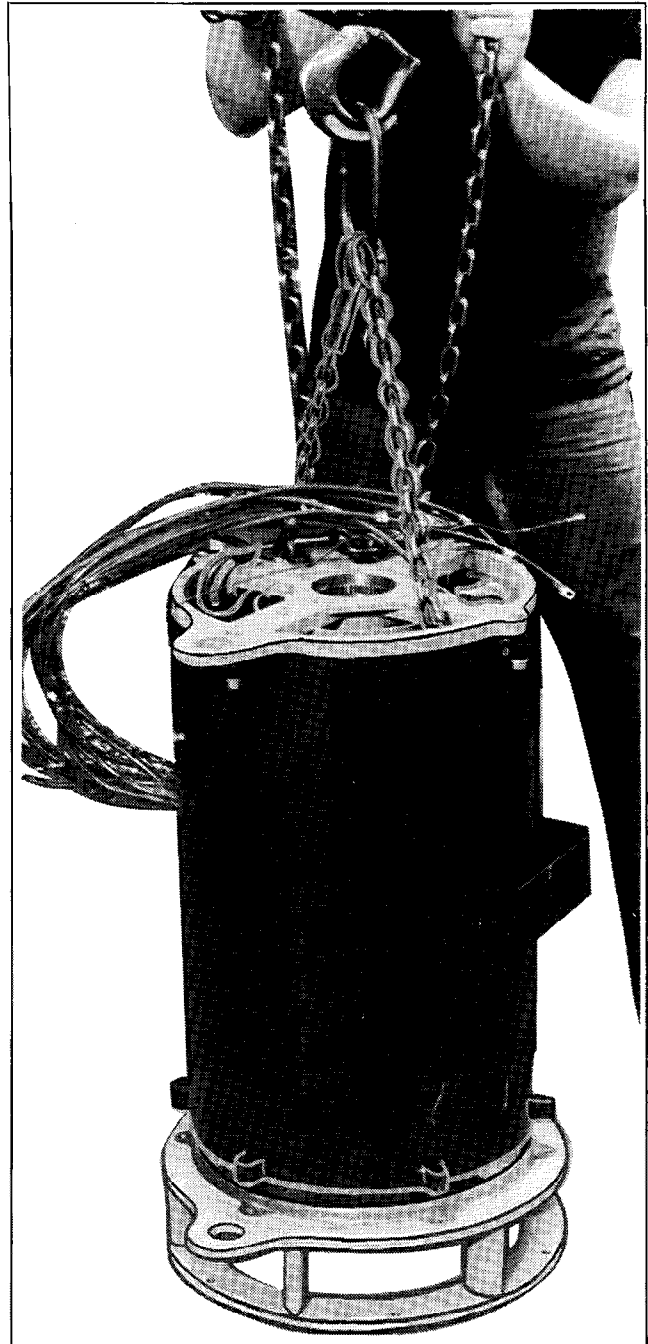

Figure 6-9. Aligning Adapter and Stator
5. Attach hoist hooks to end bracket and suspend stator. Place the adapter on the floor and lower stator to within 1/2-1/4 in. (12.7-6.4 mm) of the adapter lip. See Figure 6-9.